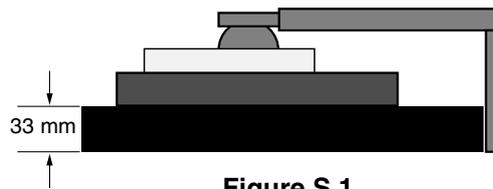

Figure S.1
3. Place monitor face down on a non-abrasive surface. (Place the screen on a 33 mm platform so that the stand is parallel with the surface) (**Figure S.1**).